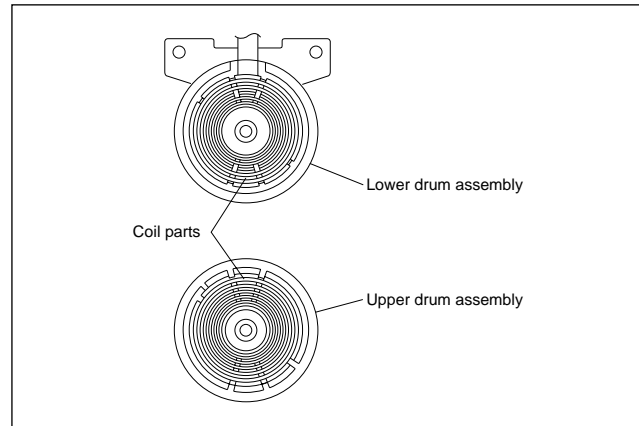

Fig. 2-2-25b
- (1) Clean the coil parts of the lower drum assembly and the newly installed upper drum assembly with an air brush in advance. (See Fig.2-2-25b.)